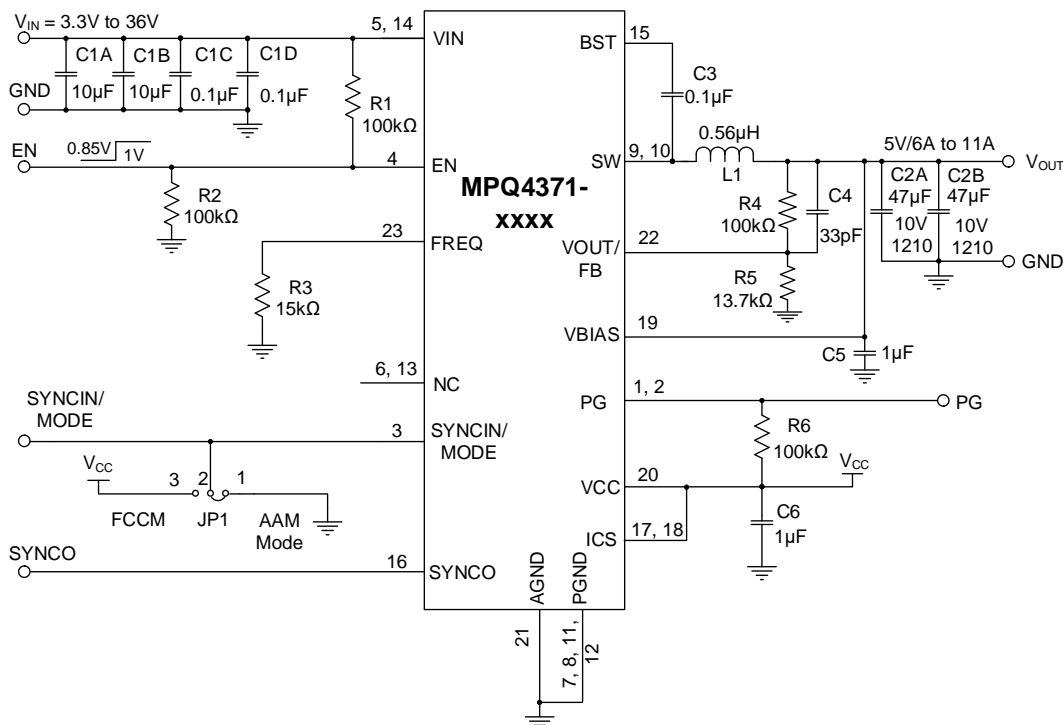

Figure 15: Typical Application Circuit (Single-Phase, V_{OUT} Adjustable for the MPQ4371-xxxx, $V_{OUT} = 5V$, $f_{SW} = 2.2MHz$)
- 15) The recommended PCB layout is based on Figure 15 on page 75.